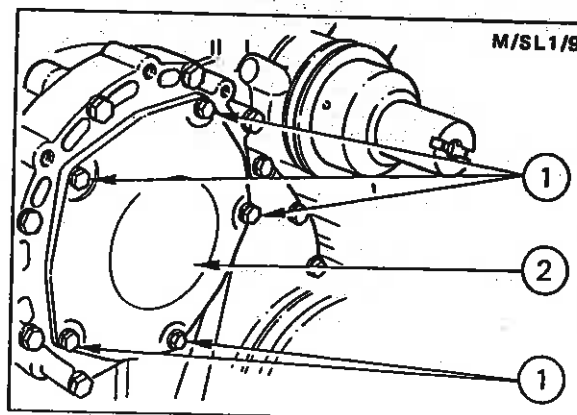

Fig. 35 - Removing Injection Pump Timing Aperture Cover Plate - Automotive and G.P. Governed Pumps
5. On automotive and G.P. governed pumps, remove the adjustment cover plate on the front of the timing cover (Fig. 35).
2. On automotive and G.P. governed pumps, remove the adjustment cover plate (Fig. 35) and slacken the four drive gear clamping screws. Rotate gear slightly as necessary until tool plunger engages, then tighten clamping screws to recommended torque value. Check that correct flywheel marking is still indicated. Replace the timing cover adjustment plate and tighten the securing screws (Fig. 35).